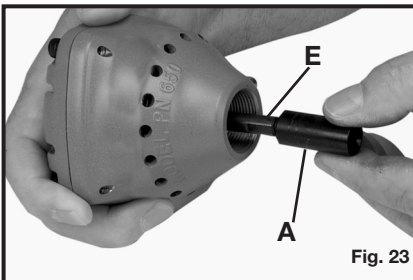

Fig. 23
3. Slide hammer sleeve (A) Fig. 23 over the driver blade (E).